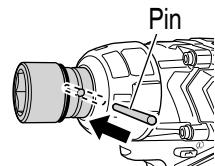

Fig. 10
(2) Insert the pin into the socket. (Fig. 10)